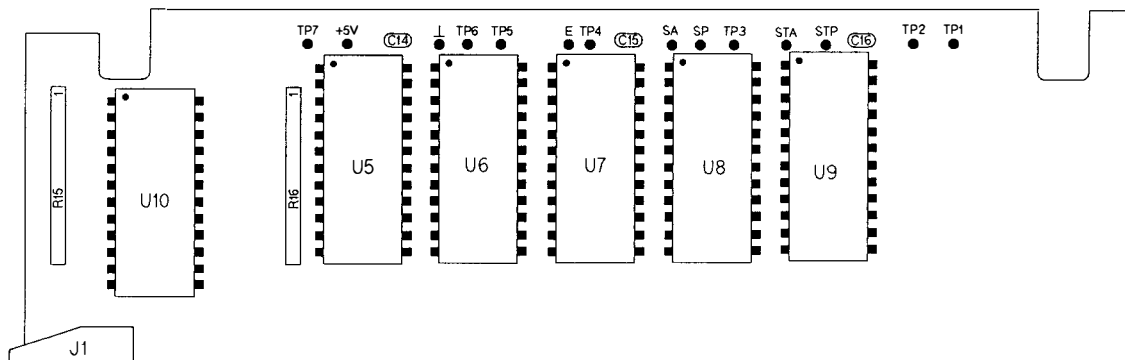

Figure B-4. 08116-66533: ROM layout
- Figure B-4 shows the location of the ROMs on microprocessor board 66533, modify Figure 10.7-9.